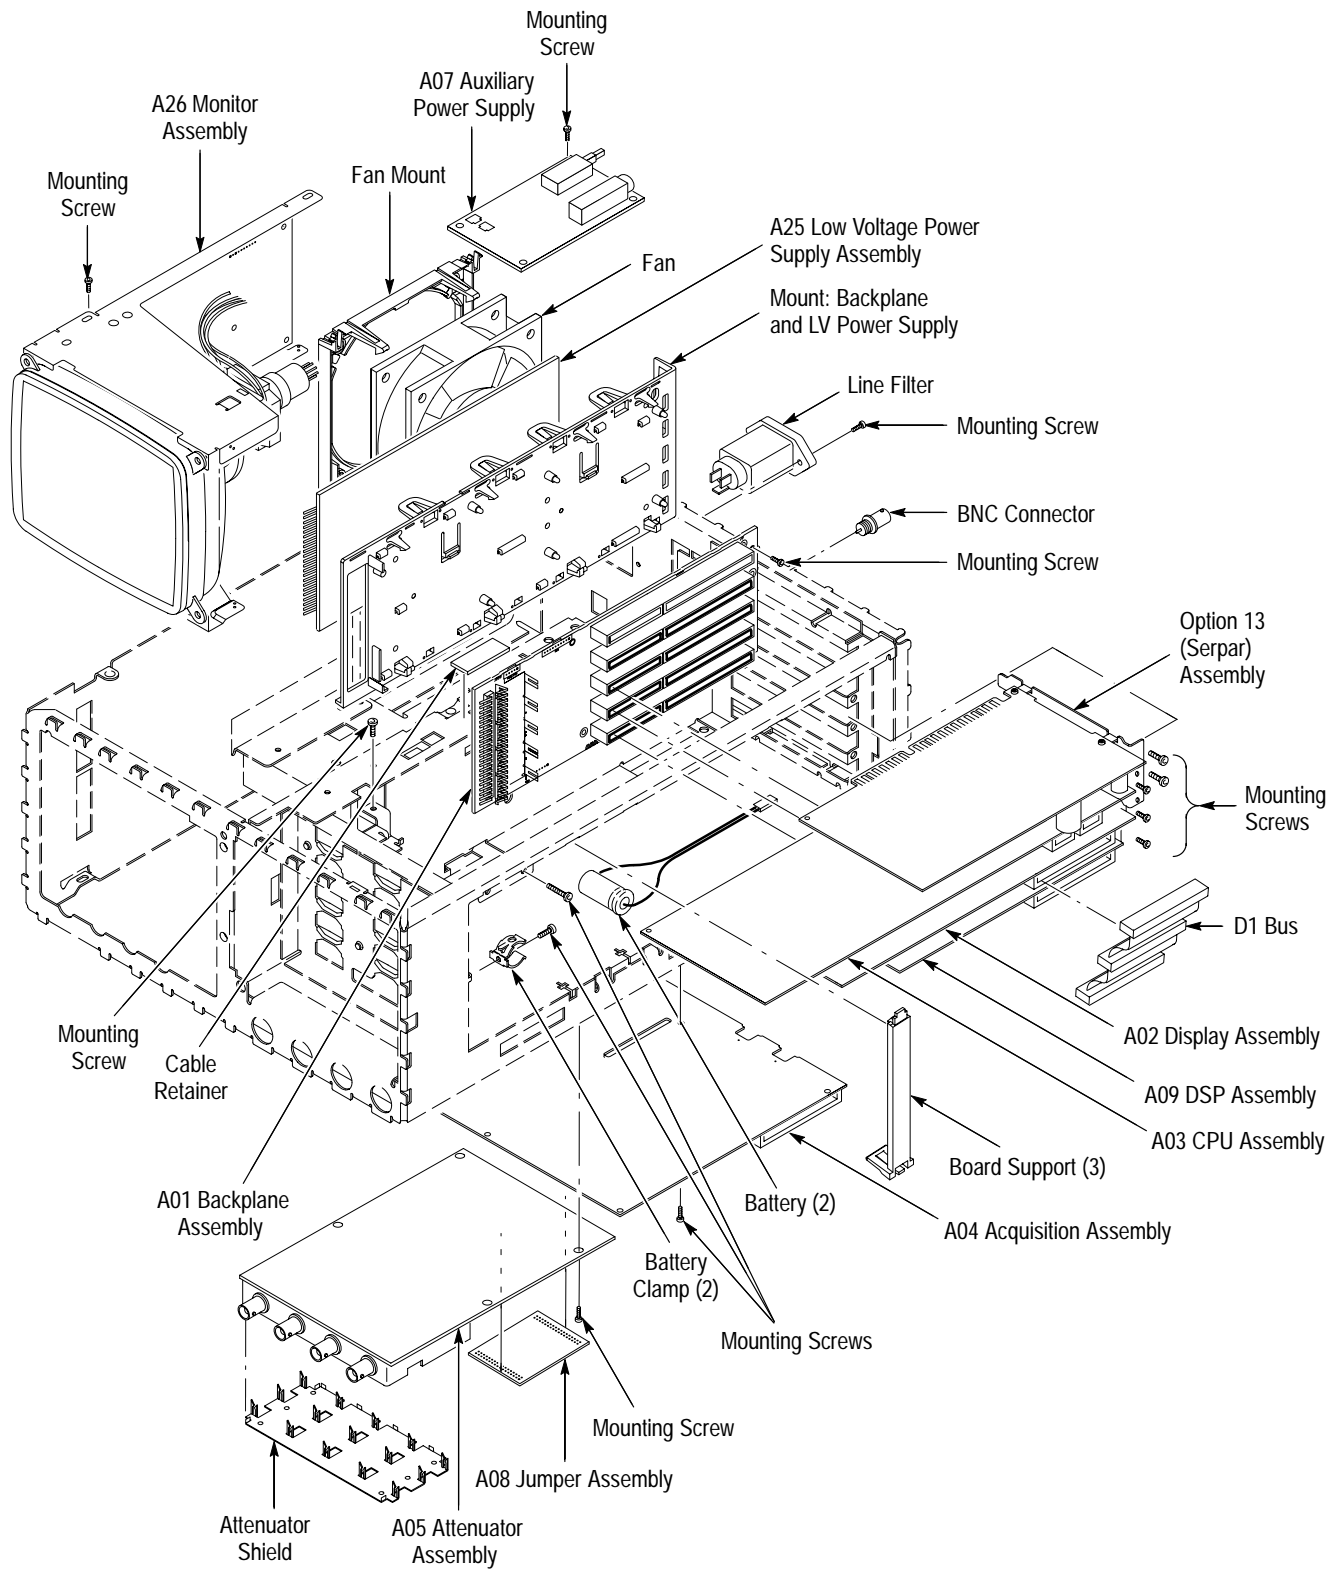

Figure 6-3: Internal Modules
- b. If you have found the module to be removed in either Figure 6-3 or Figure 6-4, cabinet removal is required:
- c. If you have located the module to be replaced in Figure 6-3, do the following subparts:
**Table 6-6: Access Instructions for Modules in Figure 6-3 (Cont.)**